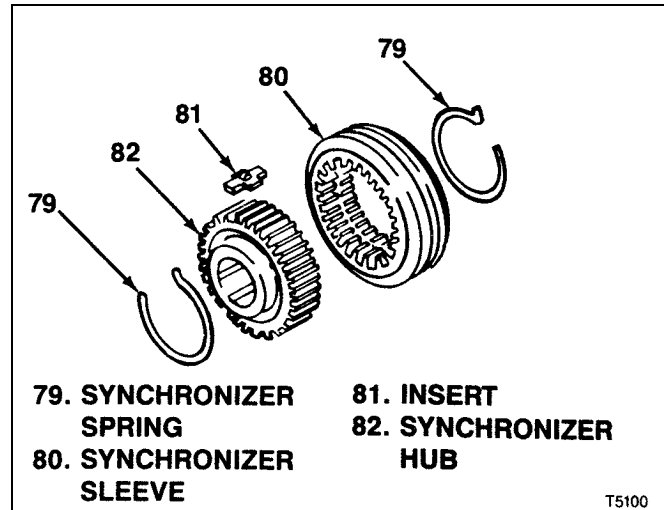
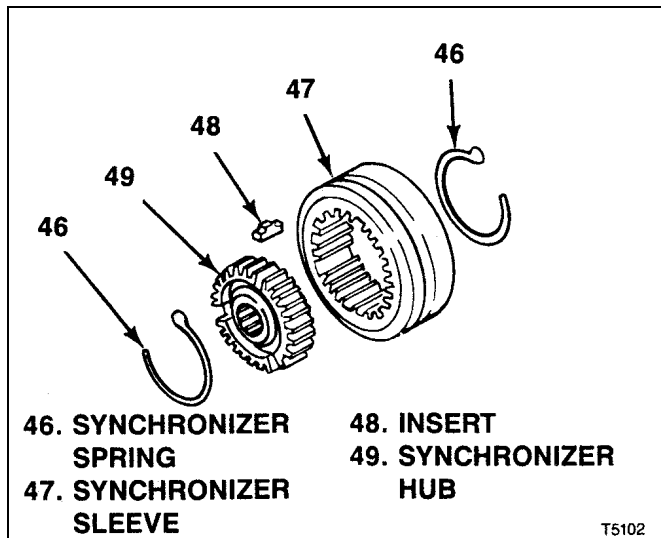
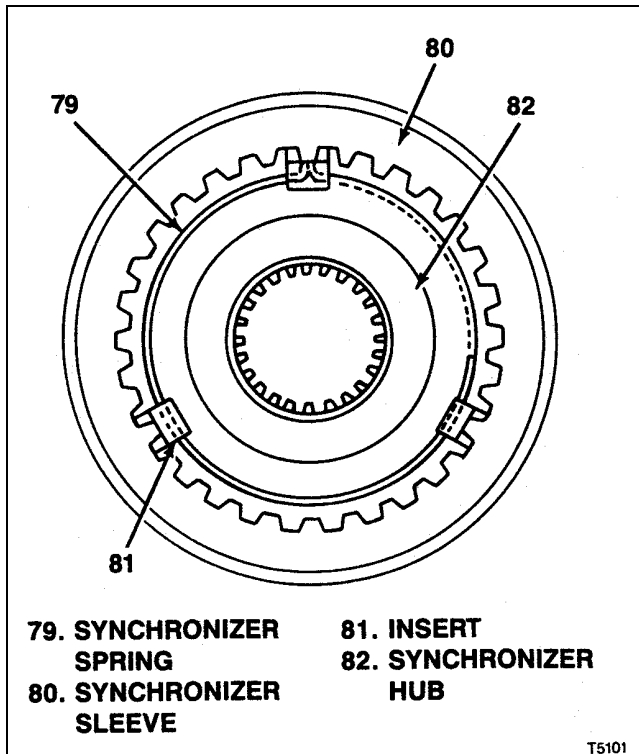
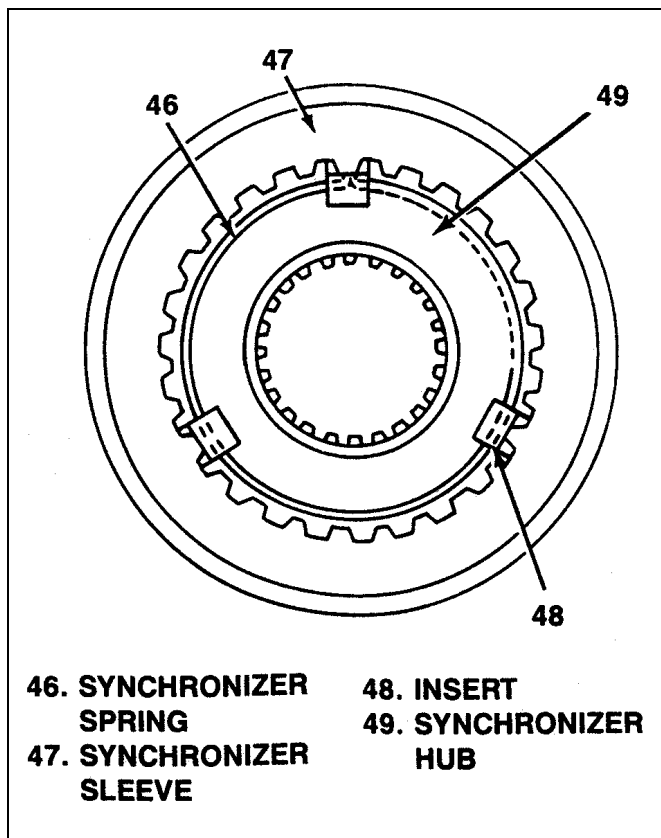

Figure 6-1. T5 WC 3rd-4th Synchronizer Assembly
Figure 6-4. T5 WC 5th Synchronizer Assembled
Figure 6-2. T5 WC 3rd-4th Synchronizer Assembled
Figure 6-3. T5 WC 5th Synchronizer Assembly
- Bearing cone (64)
- Thrust bearing (68)
- Bearing cone (72)
- Needle bearing (84)
- Bearing cones (115)
**6-6. ASSEMBLY OF T5 WC 3RD-4TH SYNCHRONIZER ASSEMBLY** (see figure 6-1). Be sure to assemble sleeve (80) and hub (82) aligning marks made at disassembly (see figure 6-2) so that clutch teeth and part faces are assembled exactly as they were originally. Assemble as follows:
- Start sleeve (80) onto hub (82) to a position that will just permit installation of inserts (81). Install inserts (81) then engage clutch teeth fully.
- Hook one end of one spring (79) under one of the inserts (81) and wrap around inside, under all three inserts. Hook other end of spring under insert (see figure 6-2).
- Invert assembly. Hook remaining spring (79) under opposite end and side of same insert (81) where step b was started but wrap around inside in opposite direction from step b, under all three plates. Hook other end of spring under insert (81) (see figure 6-2).
- Position sleeve (80) and inserts (81) so that all inserts snap into neutral position.
**6-7. ASSEMBLY OF T5 WC 5TH SYNCHRONIZER ASSEMBLY** (see figure 6-3). Be sure to assemble sleeve (47) and hub (49) aligning marks made at disassembly (see figure 6-4) so that clutch teeth and part faces are assembled exactly as they were originally. Assemble as follows:
- Start sleeve (47) onto hub (49) to a position that will just permit installation of inserts (48). Install insert (48) then engage clutch teeth fully.
- Hook one end of one spring (46) under one of the inserts (48) and wrap around inside, under all three inserts. Hook other end of spring under insert (see figure 6-4).
- Invert assembly. Hook remaining spring (46) under opposite end and side of same insert (48) where step b was started but wrap around inside in opposite direction from step b, under all three plates. Hook other end of spring under insert (48) (see figure 6-4)
- Position sleeve (47) and inserts (48) so that all inserts snap into neutral position.